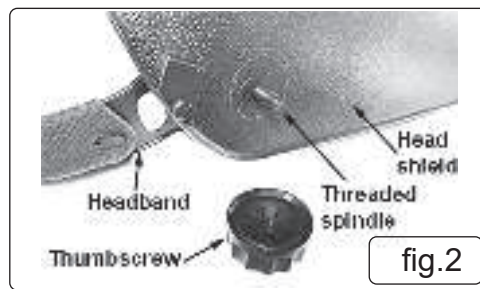

fig.2
- 4.1.2. Locate the exposed threaded spindle through the fixing hole in the head shield body (fig 2).
5.3.1. Adjust the tilt angle by loosening the thumbscrews (fig 2) on both sides of the head shield and change the tilt tab to the desired angle (fig 3). There are four pre-set positions to select.